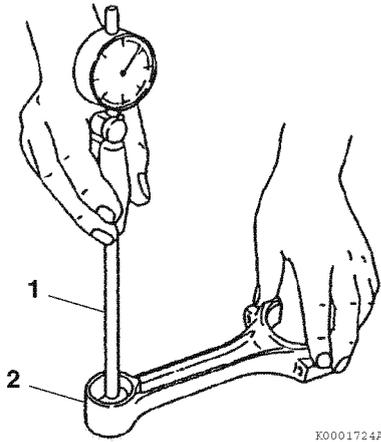

Figure 6-76
1. Measure the wrist pin bushing bore using a bore gauge (1, **Figure 6-76**). Replace the bushing if not within specifications. If the bushing has been removed, measure the inside diameter of the connecting rod small end (2, **Figure 6-76**). See *Connecting Rod* on page 6-14 for specifications.